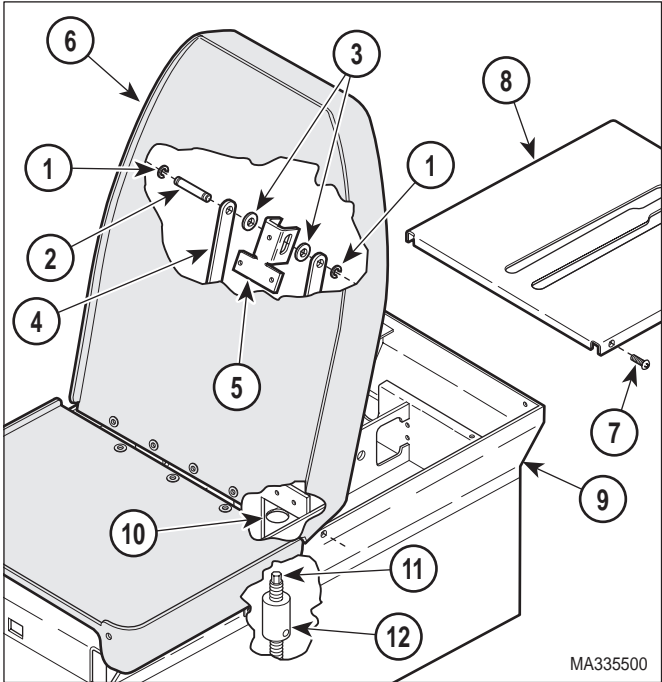

Figure 4-2. Extending Base Actuator
- c. While supporting back section, remove two e-rings (1, Figure 4-2), clevis pin (2), two bearing washers (3), and two link bars (4) from back pivot bracket (5).
- d. Fold back section (6) toward front of table and prop up.
- e. Remove four screws (7) and back cover (8) from upper wrap weldment (9).
- (13) Raise table to its upright position.
- (14) Install four drawers (5) in table.
- (15) Lower bellows (4) against lower base weldment (3); then slide two bellows retainer trim (2) over bottom of bellows and secure with four screws (1).
- (16) If removed, install back cover (8, Figure 4-2) on upper wrap weldment (9) and secure with four screws (7).
- (17) If disconnected, connect two link bars (4) to back pivot bracket (5) with two bearing washers (3), clevis pin (2), and two e-rings (1).
- (18) If base capacitor was bypassed, remove bypass wires (Refer to para 4.29).